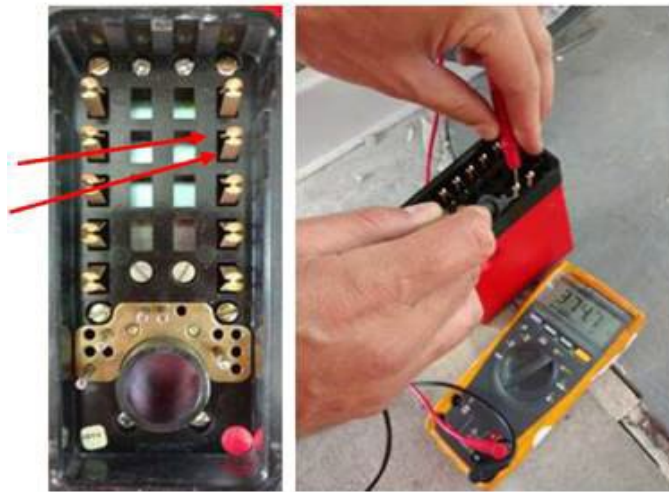

Figure 1 - Coil Resistance Check
- From the rear of the module, preferably held by a colleague on a solid surface, take the reading in Ohms with a Fluke 187 / 287 using only light pressure at the base of terminals D3/D4 as shown in Figure 1.